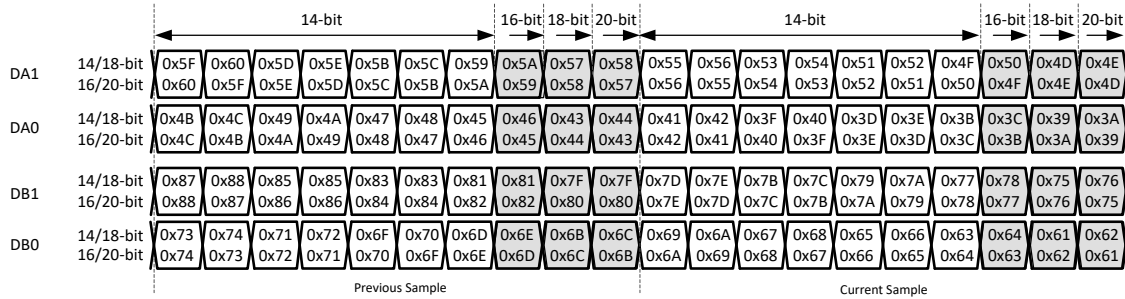

Figure 8-42. 2-wire output bit mapper
**2-wire mode:** in this mode both the current and the previous sample have to be used in the address space as shown in Figure 8-42. The address order is different for 14/18-bit and 16/20-bit. Note: there are unused addresses between samples for resolution less than 20-bit (grey back ground), which can be skipped if not used.